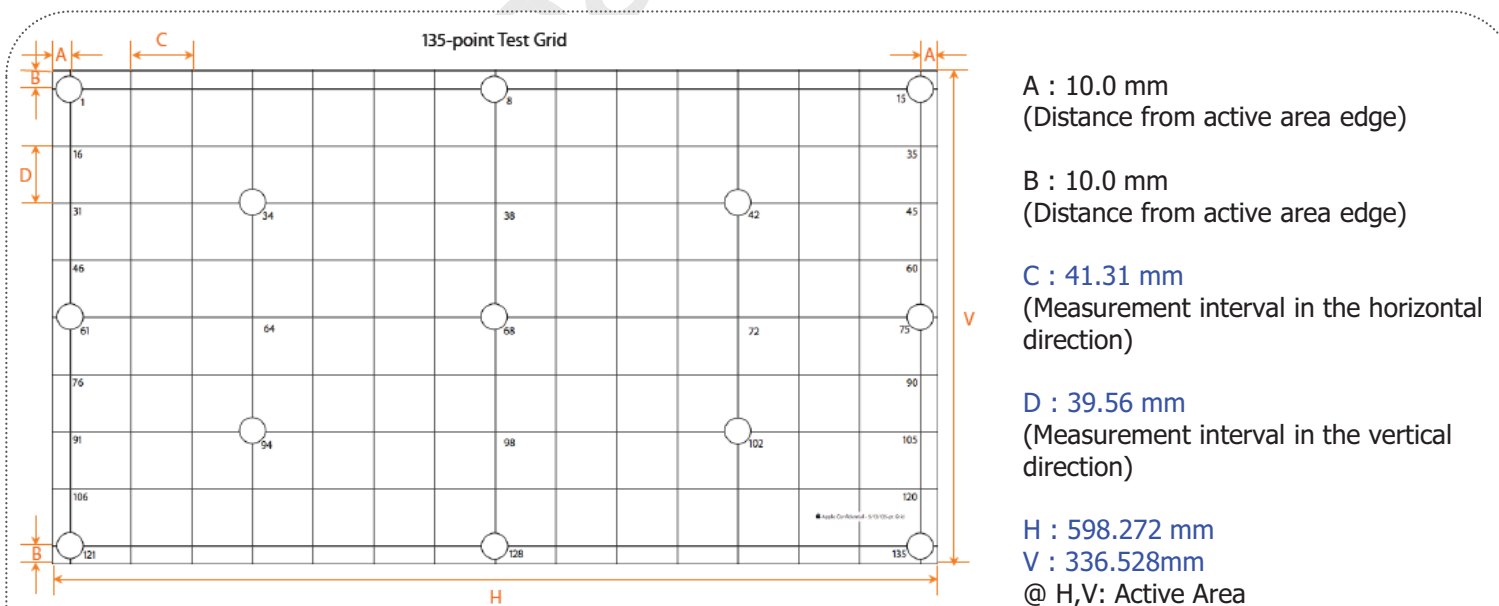

FIG. 8 Measurement Point for Luminance, Luminance Variation , Color Coordinates, Color Uniformity, Contrast Ratio
2. Surface luminance(L_{WH})is luminance value at Center 1 point(P68) across the LCD surface 50cm from the surface with all pixels displaying white. For more information see FIG.8 (By PR880)
For more information see FIG 8.